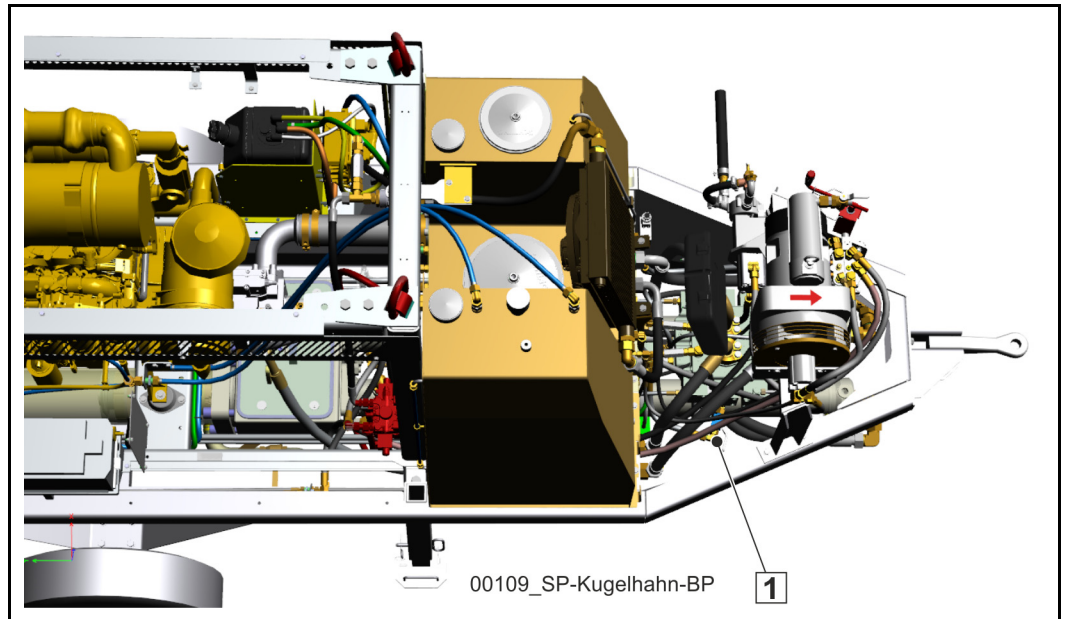

Fig. 33 Pressure control for concrete pump
- Check whether the ball valve (1) (**Fig. 33**) on the concrete pump control block is in the operating position. Observe the signs and labels.